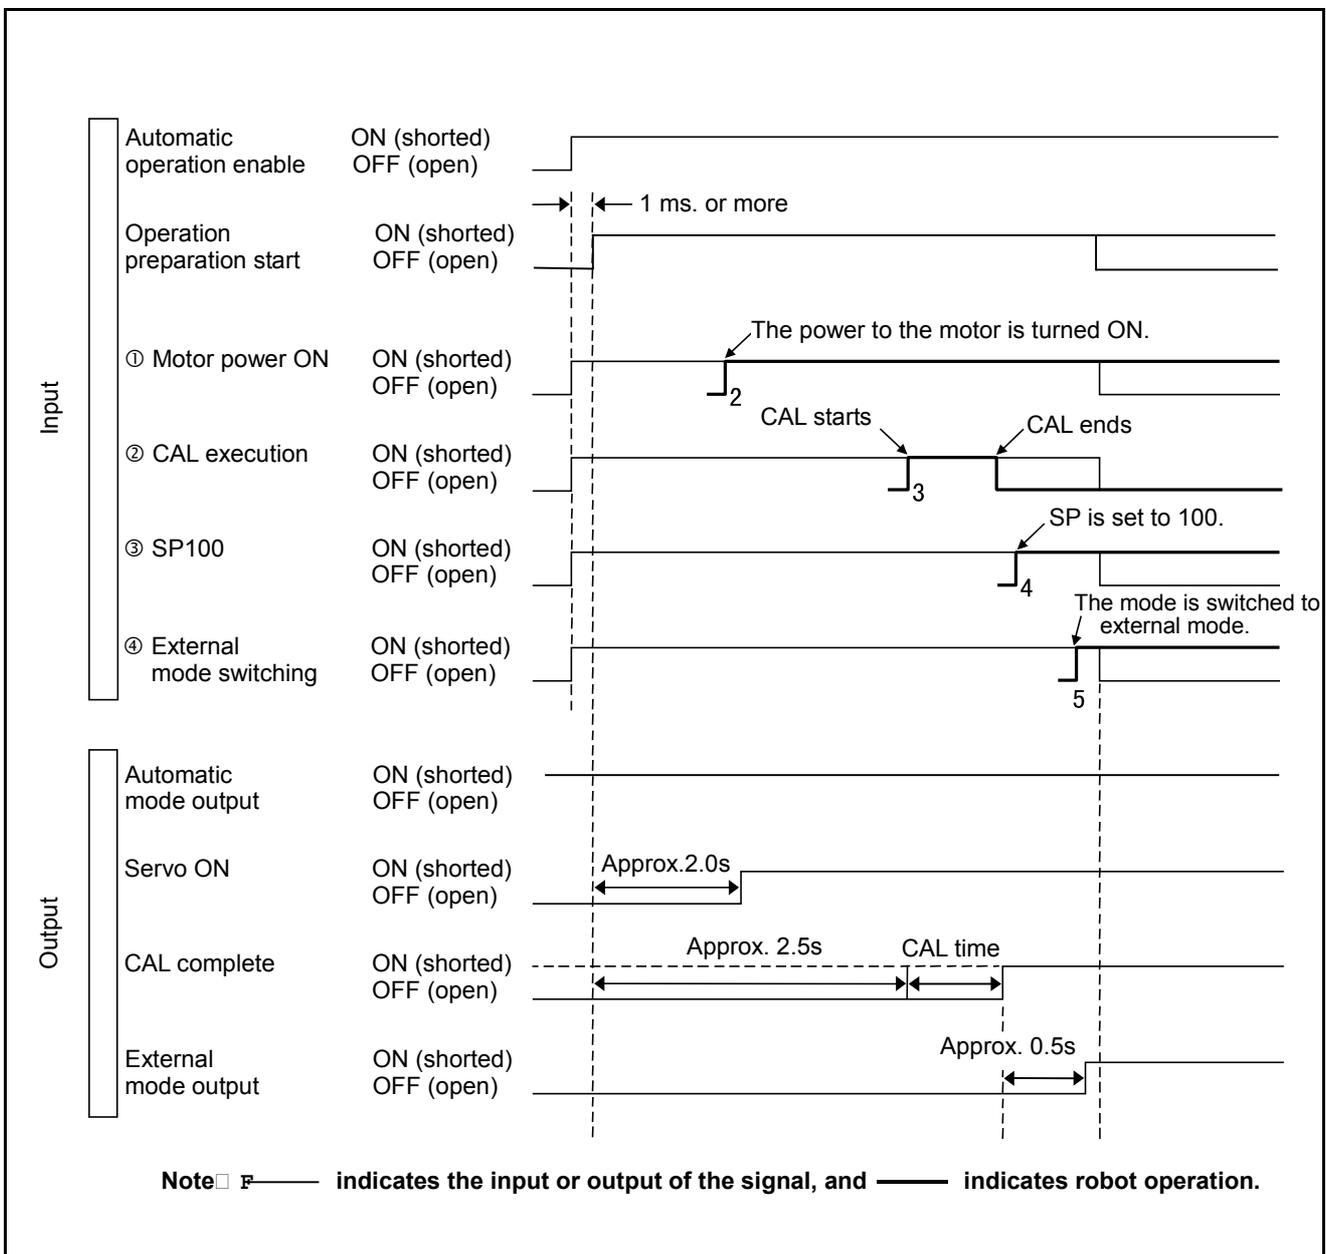

Figure 5-35 Example of Operation Preparation Start Signal Timing Chart
**NOTE:** By turning ON (short) the operation preparation start signal with all inputs ① to ⑤ turned ON (shorted), ① to ⑤ will be executed one by one. Input ② cannot be executed until input ① is completed. Inputs ① to ⑤ will also become valid when part of them are executed by the operating panel or teach pendant.
For the input timing of the operation preparation start signal and ① to ④, see Figure 5-35.